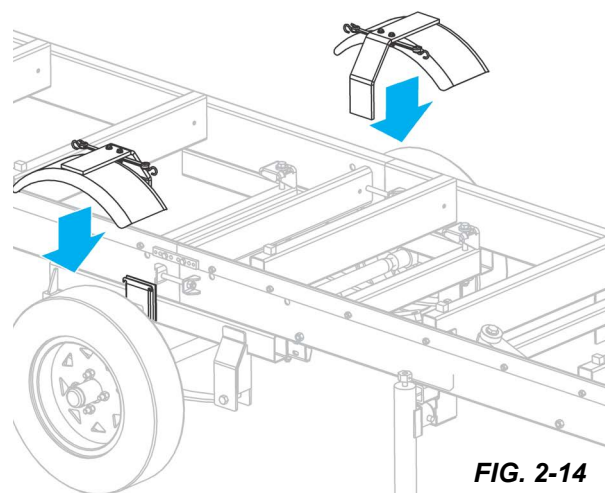

FIG. 2-14
5. Connect the white ground wire to the ground bolt under the hitch and secure with the provided nut. See Fig. 2-14.